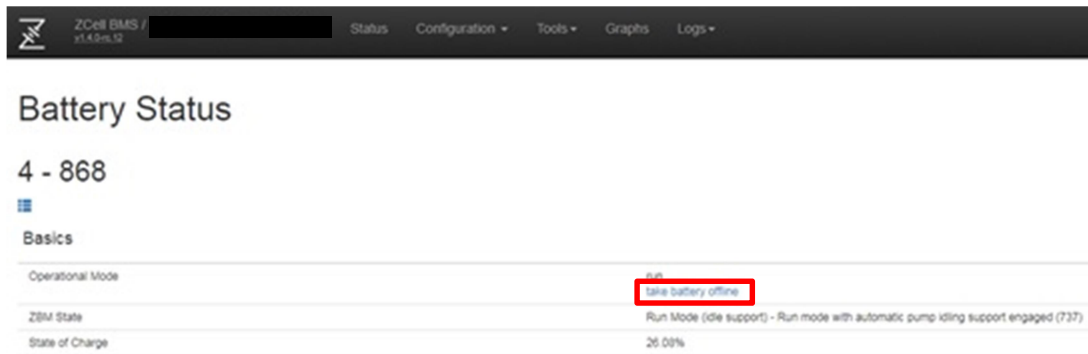

Figure 48: BMS interface showing how to take a ZBM2 offline
- Step 2** Using the BMS online interface, put the ZBM2 into Offline mode. This is done by going to the system Status page and clicking the ZBM2 that should be shut down. On the ZBM2's Battery Status Page, click the "take battery offline" link (see Figure 48). The Operational Mode will change from "run" to "offline" after the user confirms this operation.